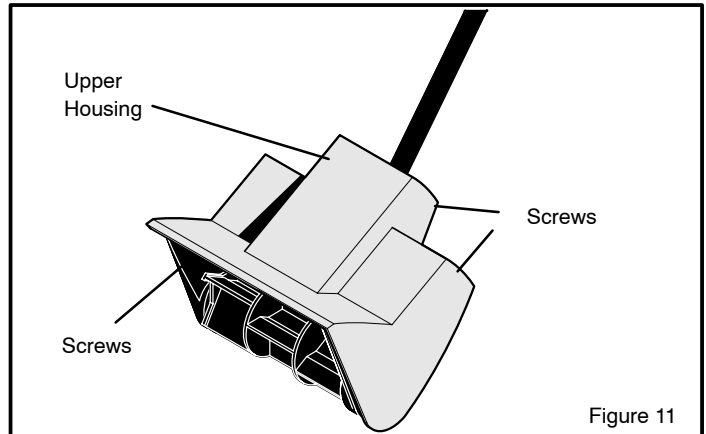

Figure 11
- Remove the eleven (11) screws securing the upper housing to the lower housing and remove upper housing. Figure 11.